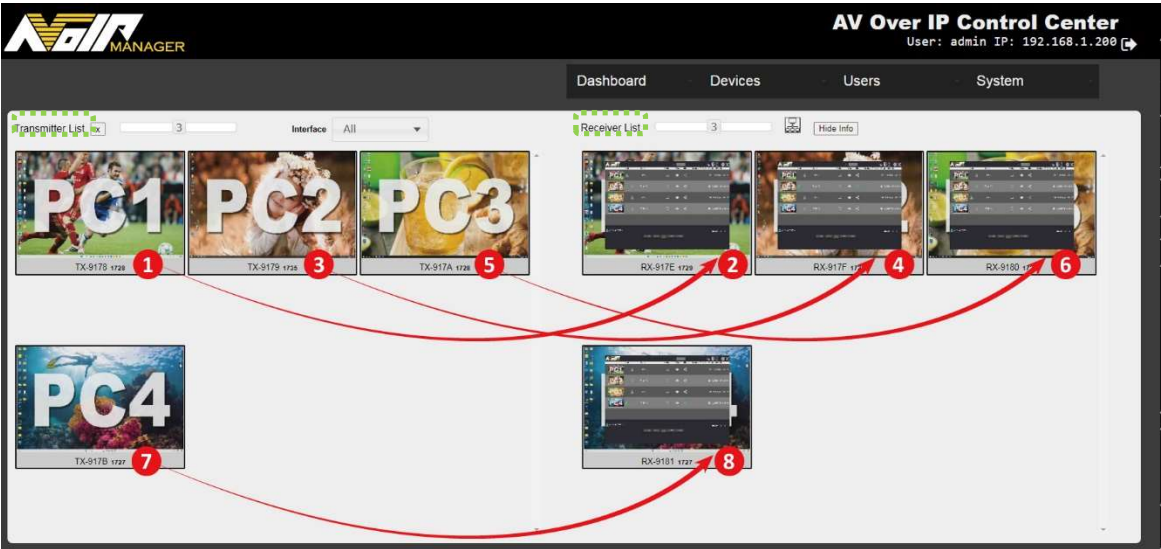

Figure 5-14 Main Menu>Dashboard>Control Panel>TX-to-RX Switching
Users can intuitively drag any transmitter unit thumbnail from the left and drop it onto any receiver unit thumbnail on the right, as illustrated from steps (1) through (8) of Figure 5-14. Figure 5-14 shows the receivers' OSD menus have been logged in.